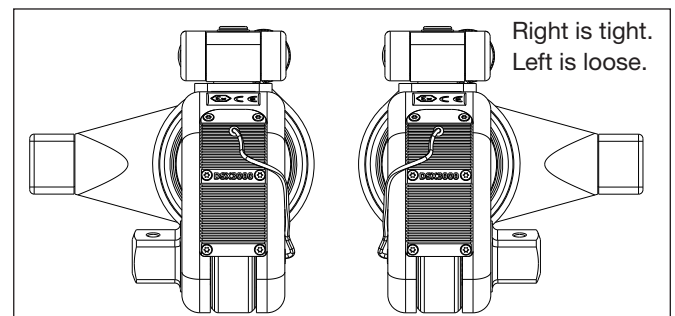

Figure 3: Drive Directions for Loosening/ Tightening
- For tightening bolts, install the square drive in the location shown in Figure 3.